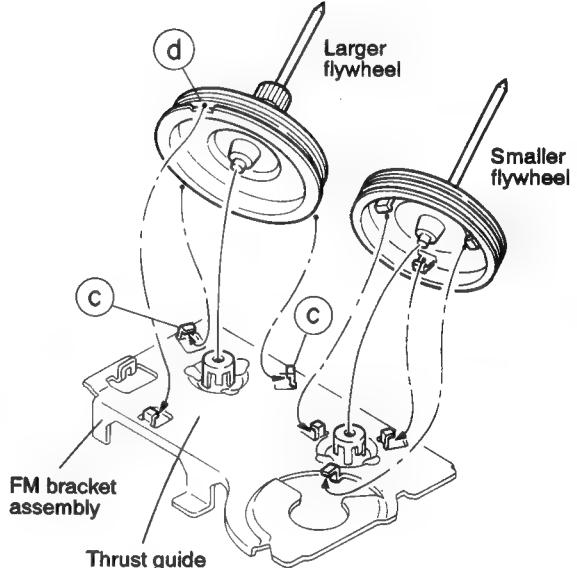

Fig. 5-43
1. First of all, attach the larger flywheel to the slide guide of the FM bracket assembly as shown in Fig. 5-43.
2. Set the FM bracket assembly to the two engagements ⑥ (See Fig. 5-43).
3. Pass the thrust guide of the flywheel through the notch ④ and turn the flywheel (See Fig. 5-43).
4. Next, set the smaller flywheel similarly according to the above steps (See Fig. 5-43).